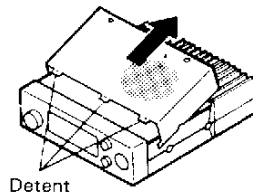

Fig. 1
2. Carefully remove the top cover. (Fig. 1)
1. Remove the 2 screws securing the Top cover. Carefully remove the top cover. (Fig. 1)
2. Carefully remove the top cover. (Fig.1)